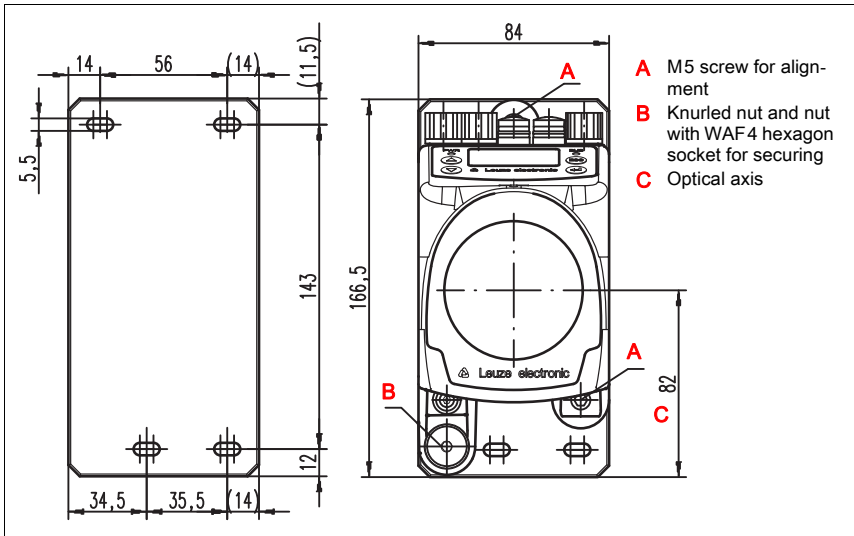

Figure 5.2: Mounting the device
The laser light spot has to be aligned so that it always hits the center of the opposing reflector, both at close range as well as at the maximum measurement distance. **To align, use the two M5 Allen screws ("A" in Figure 5.2).** When aligning, please ensure that the knurled nut and the lock nut ("B" in Figure 5.2) are opened wide.
*To prevent the laser measurement system from moving out of alignment during continuous operation, subsequently hand-tighten the knurled nut and counterlock with the nut with WAF4 hexagon socket ("B" in Figure 5.2). Knurled nut and nut must not be tightened until alignment has been completed.*